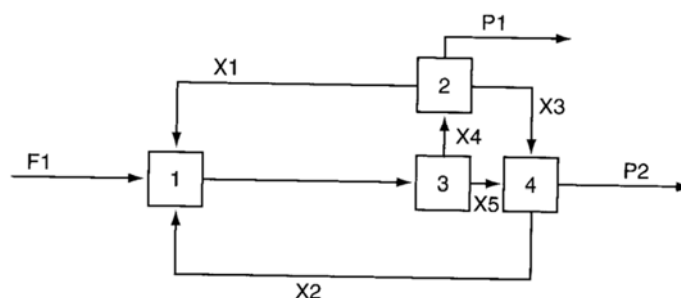

Figure SAT12.1PI
1. How many recycle streams occur in Figure SAT12.1PI?